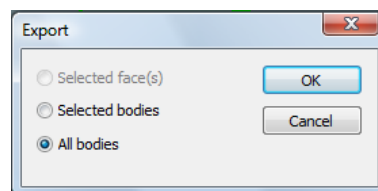

Figure 16
4. NOTE: ONLY if the part has multiple bodies, the “Export” message may appear (see Figure 16). Use **Selected bodies** to choose which to export. If this window does not appear, all bodies will be exported.